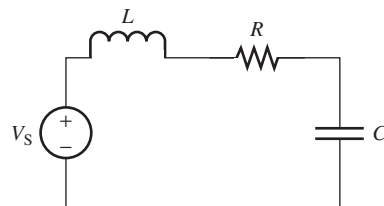

FIGURE P5.43 Circuit for Problem 5.43.
5.43 (A)* For a basic RLC circuit in Figure P5.43, what is the effect on damping ratio if we increase